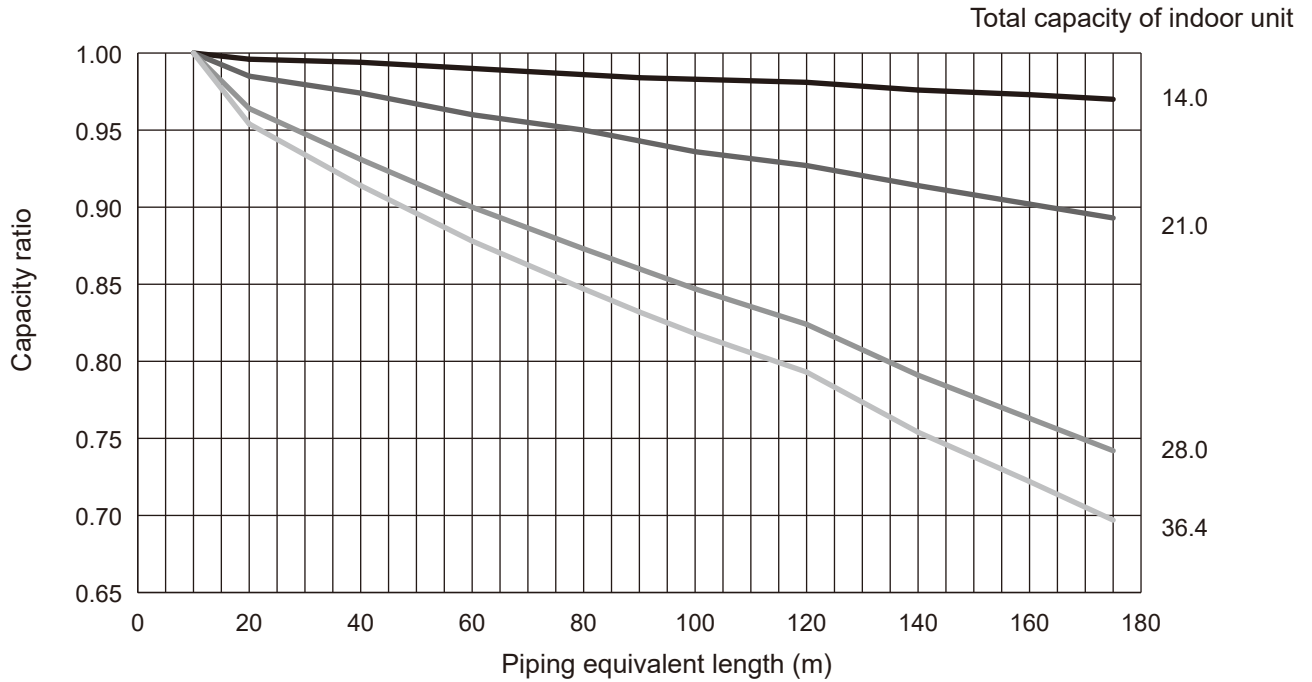

Figure 12 PUMY-P250YBM2
- During heating, find the equivalent piping length, and find the capacity ratio corresponding to standard piping length from Figure 12. Then multiply by the heating capacity from Figure 9 and 10 in "4-2. CORRECTION BY TEMPERATURE" to obtain the actual capacity.
(1) Capacity Correction Curve